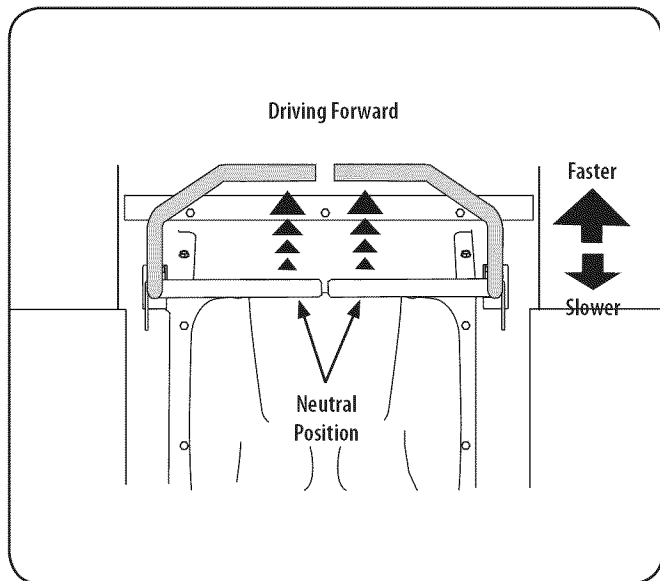

Figure 2
1. Slowly and evenly move both drive control levers forward. The tractor will start to move forward. See Figure 2.